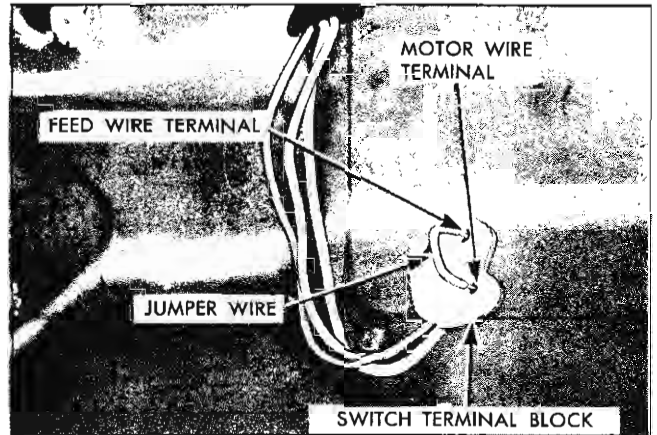

Fig. 9-6 Checking Window Control Switch
1. Insert one end of a no. 12 gauge jumper wire to the switch feed terminal and the other end to one of the motor lead terminals in the switch block. Repeat this check on the remaining motor lead terminal (Fig. 9-6).
2. Insert one end of a no. 12 gauge jumper wire to the switch feed terminal and the other end to one of the motor lead terminals in the switch block (Fig. 9-6).